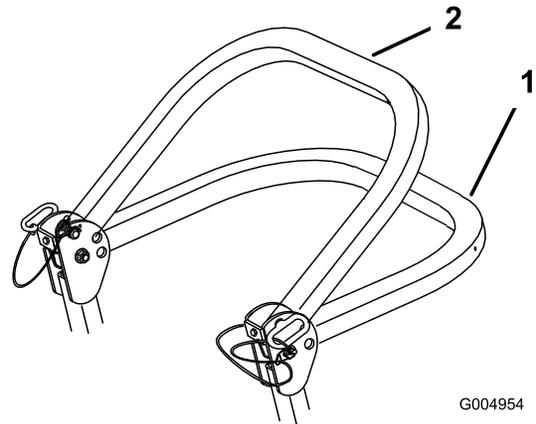

Figure 7
2. Lower the roll bar to the down position. There are 2 down positions. See Figure 7 for the positions.